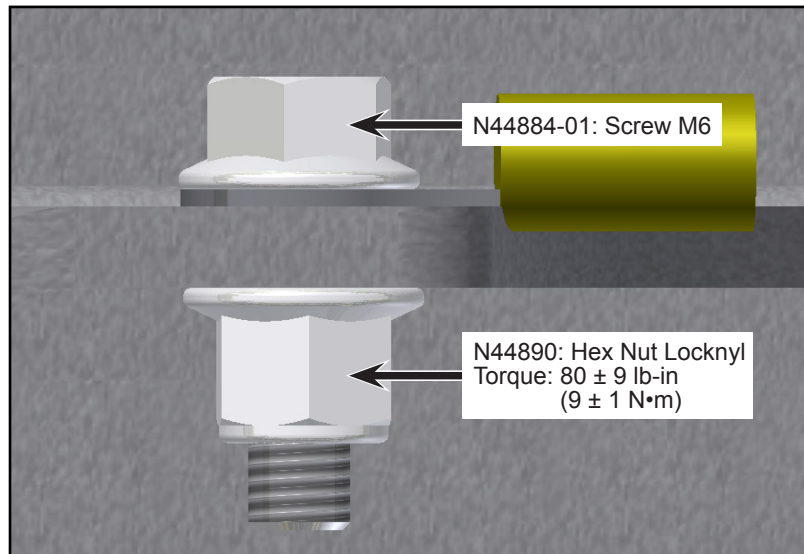

Figure 4 - Installation of Lug
- 1.9. Clean the surface and install the wire terminal lug on the structure (hole already present) with the flanged screw (N44884-01) and hex nut locknyl (N44890) (see Figure 4).
- 1.10. Tighten the nut to torque specifications (see Figure 4). Apply torque seal.